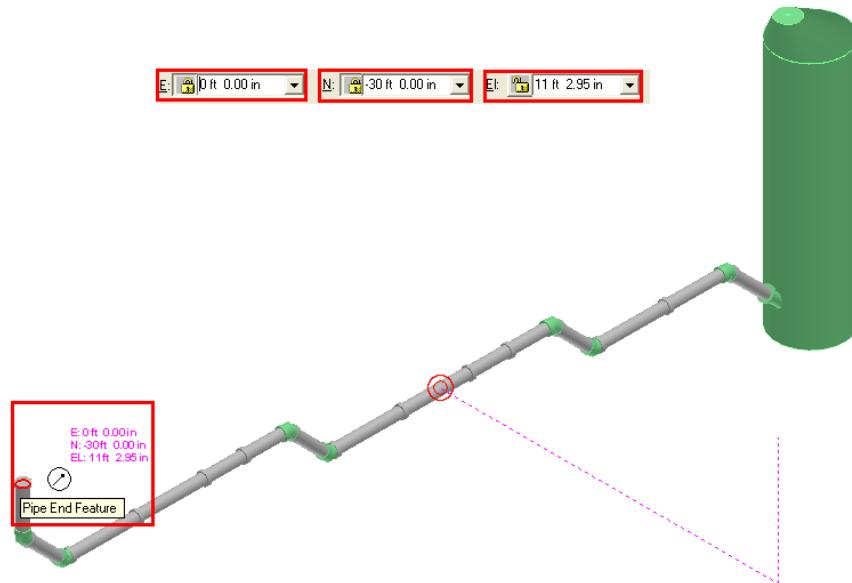

Figure 21: Mid Point of the Sloped Pipe
35. Key in **0 ft** for **E** and **-30 ft** for **N** on the **PinPoint** ribbon and locate the cleanout open port until the SmartSketch indicator key point glyph is displayed, as shown in Figure 21. Press the function key **F8** to lock the **El** drop-down list by using the cleanout open port.